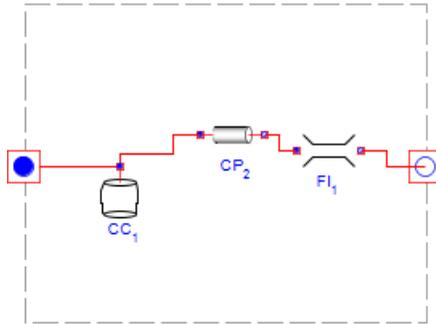

Figure 6.28: Discretized Pipeline Segment
Each subsystem consists of a compliant cylinder, a pipe, and a fluid inertia component as shown in **Figure 6.28**. A pipeline (of total length L and volume V) with N segments has $N + 1$ pipes, each with a length,
1. Build the model with the components and connections shown in **Figure 6.27** and **Figure 6.28**.